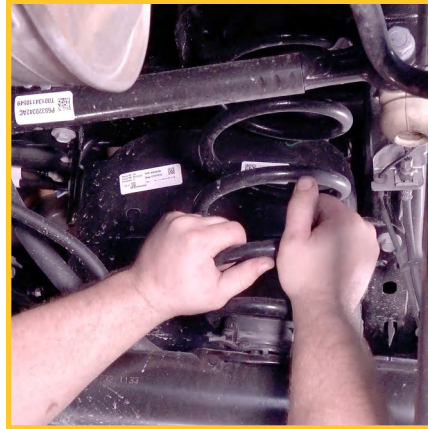

FIGURE 30
3. Lower the axle and remove the coil springs. (FIGURE 30)